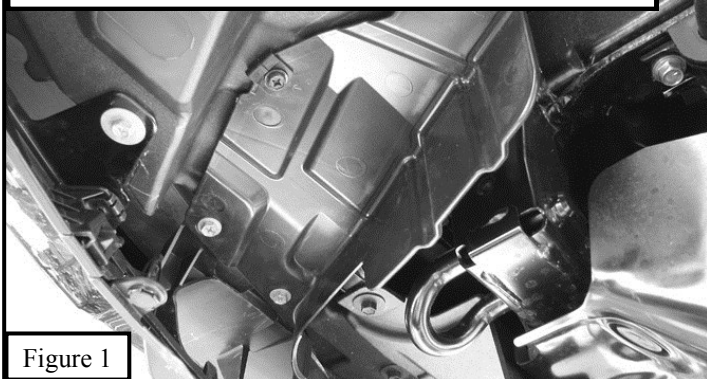

Figure 1
- For 2010-2013 vehicles only:** From underneath the front of the vehicle, remove the drivers side and passenger side plastic splash guards and set aside. See **Figure 1**.